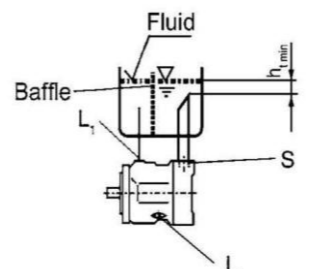

Fig. 5
b) Mounting below the reservoir "Pipe ports L1 and "S" according to Fig. 5, close port "L"